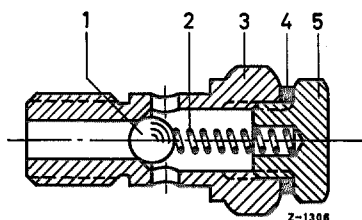

Figure 09-3/5
Cleaning and checking of the fuel main filter, as well as checking of the overflow valve are, in principle, identical with the OM 636. The overflow valve which had been hitherto fitted on the fuel main filter in the case of the OM 636 is mounted on the injection pump and features a **ball valve** (see Figure 09-3/5). A cross fitting (9) is mounted on the filter; the bleeder line (14) of the filter, the flexible hose (17) from the leak oil line (25), the flexible hose (8) (return flow line) from the overflow valve on the injection pump and the return flow line to the fuel tank are connected to this fitting. The cross fitting is not connected to the filter; it only serves as a mounting. Therefore, the cross fitting is mounted with a **normal hex. hd. screw** (10). **Caution! Do not use a hollow screw** (see Figure 07-9/1).